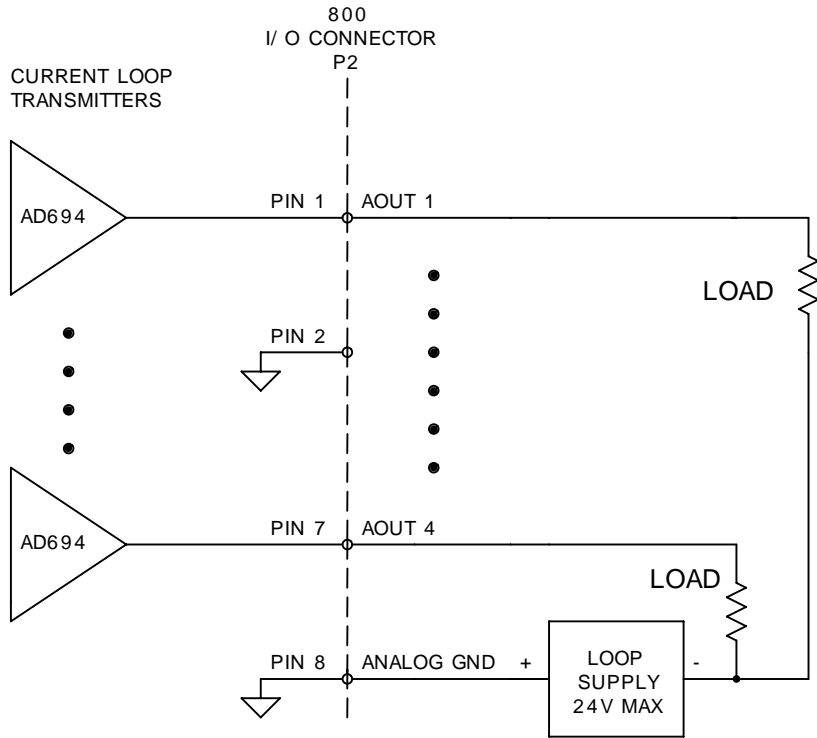

Fig. 2-4 — Current Output Connections, Single Loop Supply
**Current Loop Operation, Single Loop Power Supply:** Figure 2-4 shows how to connect the current loop transmitter outputs to corresponding loads with a single external loop supply not exceeding 24 volts. The AD694 current loop transmitters used on the DA800 are powered through the board by +12 volts. When operated with a +12 volt supply, the AD694 can source a current to a point as low as 24 volts below common.